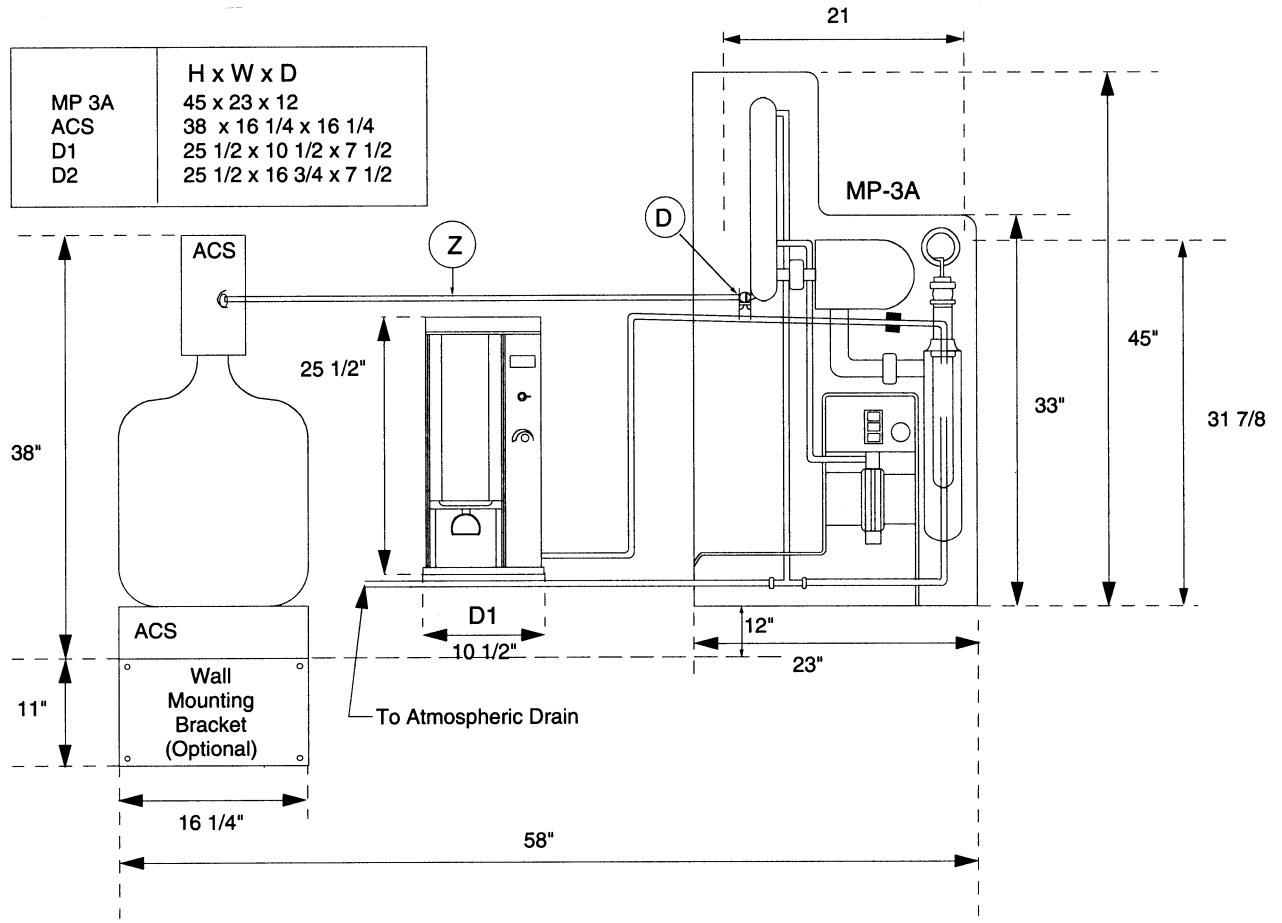

Figure 5-3. Layout Recommendation
5. If the 3½ gal. storage bottle is not being installed, move the still to its final location. See Figure 5-3 for layout recommendations and following sections for final plumbing details.
3. Move still to its final location. See Figure 5-3 for layout recommendations. See following sections for final plumbing details.
Locate ACS tube Z and Thomas clamp D in the parts box. Assemble to tubing from collection system as shown in Figure 5-3.